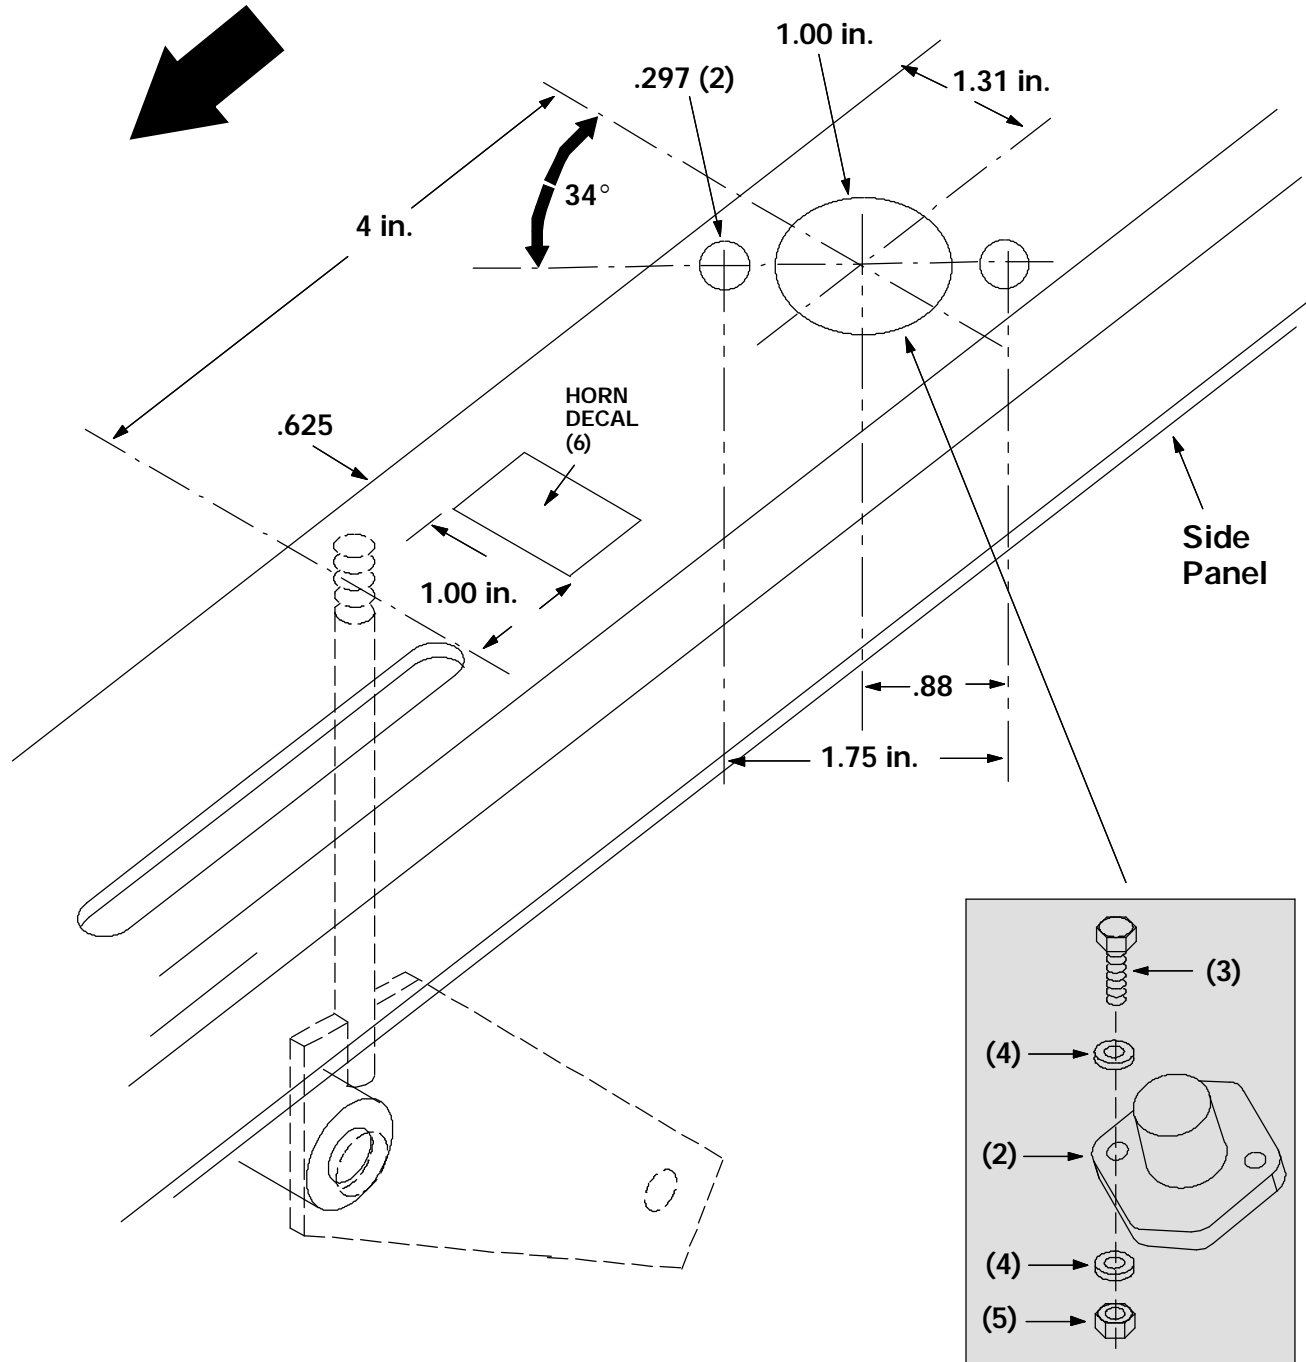

FIG. 4 - Side Panel Rework For New Horn Button Location
1. Use the dimensions in **FIG. 4** to rework the machine side panel for installation of the new horn button (2). (Refer to FIG. 4)
2. Install the new horn button using the two hex screws (3), four flat washers (4), and two nyloc nuts (5). (Refer to FIG. 4)
3. Install the new horn harness (7) on the new button (2). The end with the ring terminals goes to the button and the other end plugs in to the main harness near the bottom of the steering gear. Use the six wire ties (8) to tie the harness up and out of the way of any moving parts. (Refer to FIG. 4 and 5)